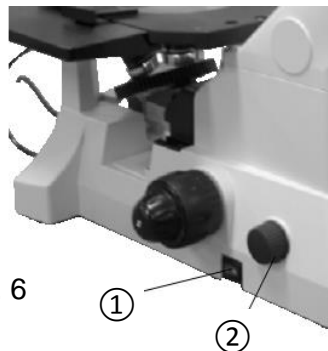

Fig. 6
Plug the 3-prong line cord into the microscope and then into a grounded 120V or 220V A.C. electrical outlet. Usage of a surge suppressor outlet is highly recommended. Turn the illuminator switch ① to “—” (Fig. 6) For longer bulb life always turn the illuminator variable intensity knob to the lowest illumination intensity setting possible before turning the power on or off.
Adjusting the Illumination (Fig. 6)